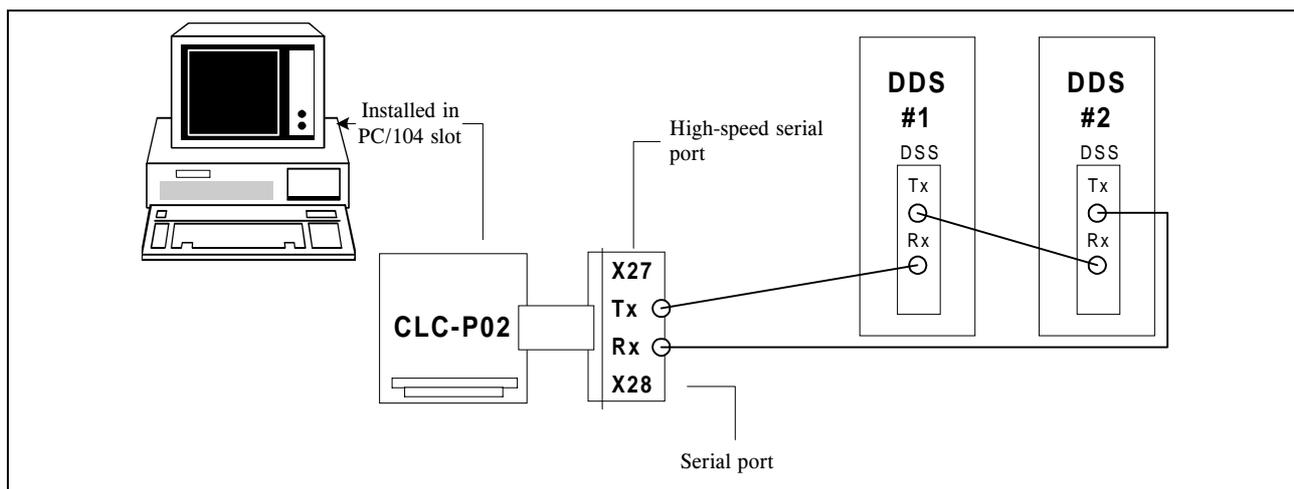

Figure 2-13: CLC-P02 Installation
8. Once communications have been established, power down the Host PC and make the appropriate cable connections to the system as illustrated in *Figure 2-13: CLC-P02 Installation*. Refer to *Figure 2-4: Fiber optic ring structure* for details.